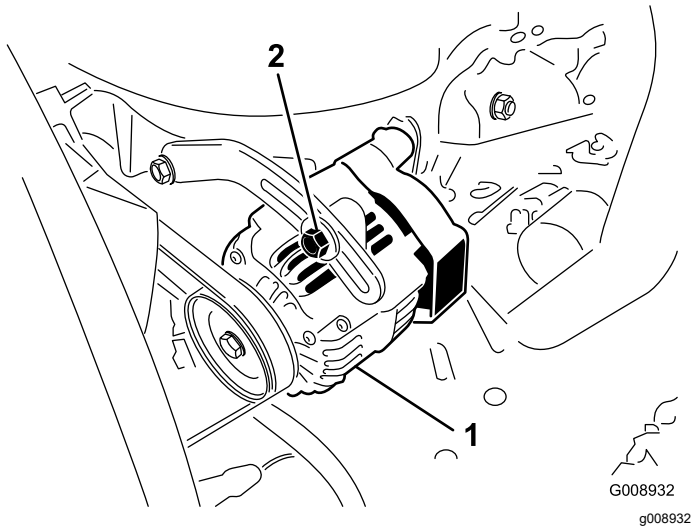

Figure 73
Check the condition and tension of the belts (Figure 73) after every 100 operating hours.
2. If the deflection is not 10 mm (3/8 inch), loosen the alternator mounting bolts (Figure 73). Increase or decrease the alternator belt tension and tighten the bolts. Check the deflection of the belt again to ensure that the tension is correct.